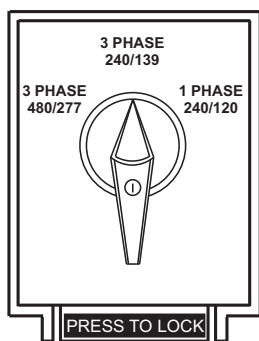

Figure 19. Voltage Selector Switch (3-Phase 240/139-Volt Position)
1. Place the **Voltage Selector switch** in the **3-phase 240/139-volt position** as shown in Figure 19.